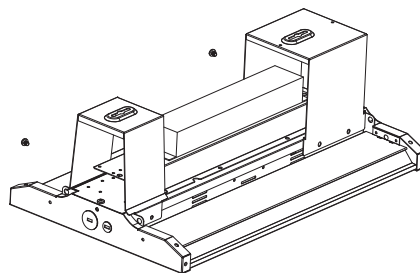

Fig. 2
2. Install surface mount bracket onto the fixture and secure with the provided screws. **(Fig. 2)**